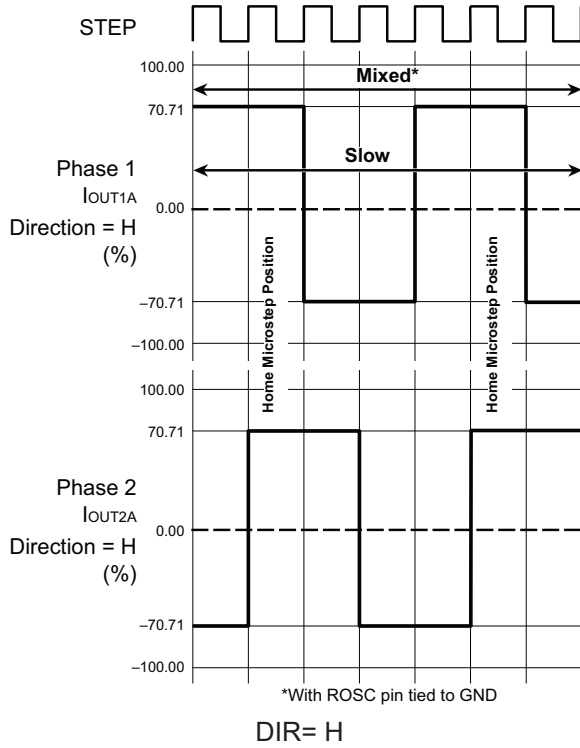

Figure 10: Decay Mode for Full-Step Increments
At power-on or reset, the translator sets the DACs and the phase current polarity to the initial Home state (shown in Figures 10 through 13), and the current regulator to Mixed Decay Mode for both phases. When a step command signal occurs on the STEP input, the translator automatically sequences the DACs to the next level and current polarity. (See Table 2 for the current-level sequence.) The microstep resolution is set by the combined effect of the MS1 and MS2 inputs, as shown in Table 1.
**Mixed Decay Operation.** The bridge operates in Mixed decay mode, at power-on and reset, and during normal running according to the ROSC configuration and the step sequence, as shown in Figures 10 through 13. During Mixed decay, when the trip point is reached, the A4985 initially goes into a fast decay mode for 31.25% of the off-time,  $t_{OFF}$ . After that, it switches to
**Reset Input ( $\overline{\text{RESET}}$ ).** The  $\overline{\text{RESET}}$  input sets the translator to a predefined Home state (shown in Figures 10 through 13), and turns off all of the FET outputs. All STEP inputs are ignored until the RESET input is set to high.
**Mixed Decay Operation.** The bridge operates in Mixed Decay mode, depending on the step sequence, as shown in Figures 10 through 13. As the trip point is reached, the A4985 initially goes into a fast decay mode for 31.25% of the off-time,  $t_{OFF}$ . After that, it switches to Slow Decay mode for the remainder of  $t_{OFF}$ . A timing diagram for this feature appears on the next page.